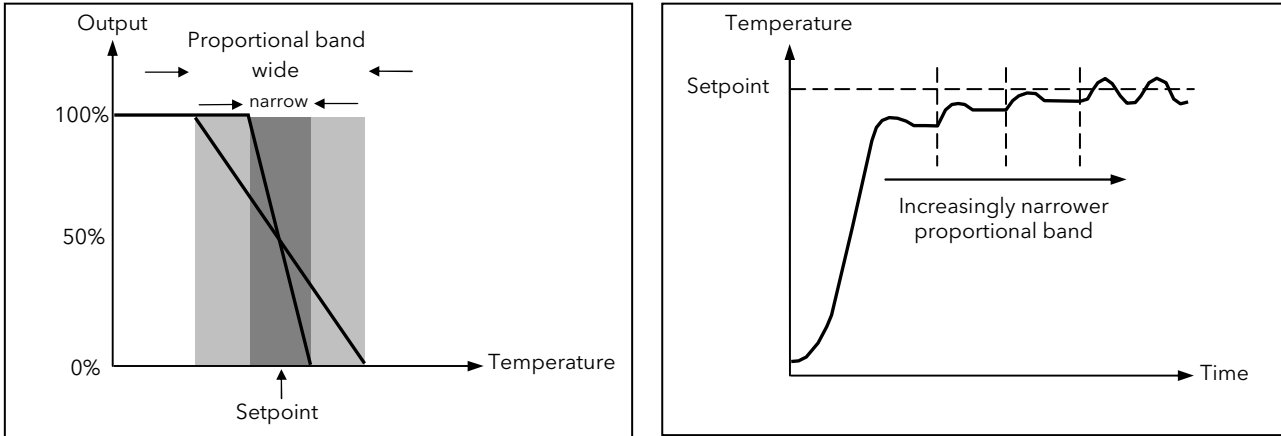

Figure 17-2: Proportional Action
The proportional band, or gain, delivers an output which is proportional to the size of the error signal. It is the range over which the output power is continuously adjustable in a linear fashion from 0% to 100% (for a heat only controller). Below the proportional band (PB) the output is full on (100%), above the proportional band the output is full off (0%) as shown in Figure 17-2.
Figure 17-2 also shows the effect of narrowing proportional band to the point of oscillation. A wide proportional band results in straight line control but with an appreciable initial error between setpoint and actual temperature. As the band is narrowed the temperature gets closer to setpoint until finally becoming unstable.